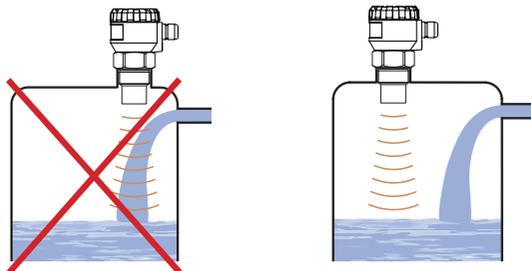

Fig. 7: Level meter installation outside the influence of filling
- Do not install the level meter in or above the **filling point** (Fig. 7).